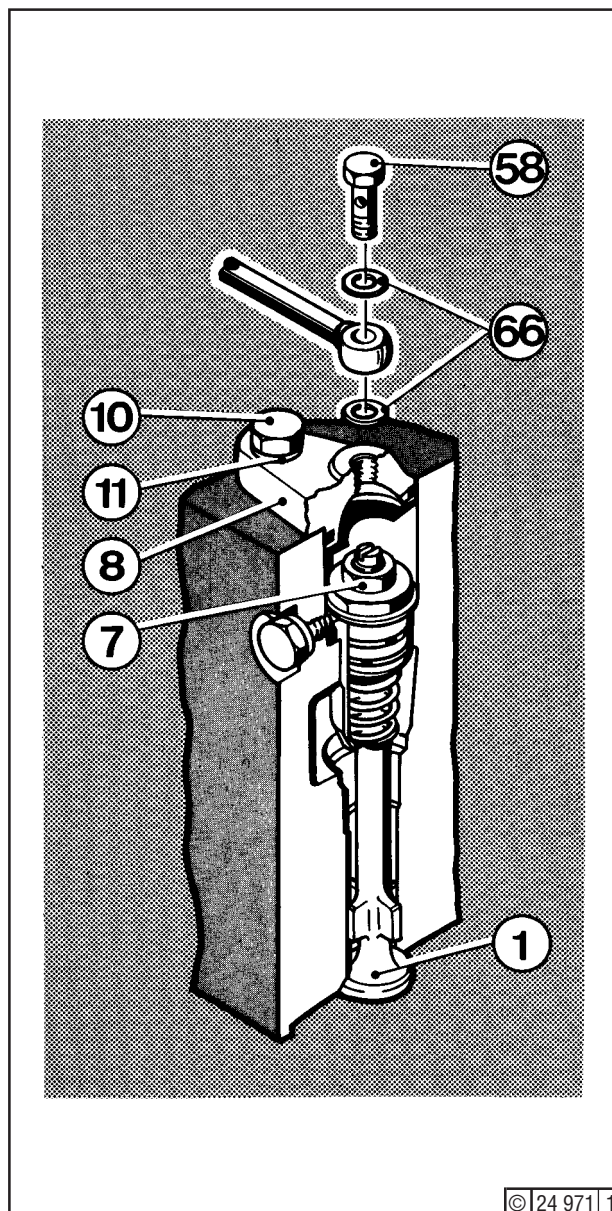
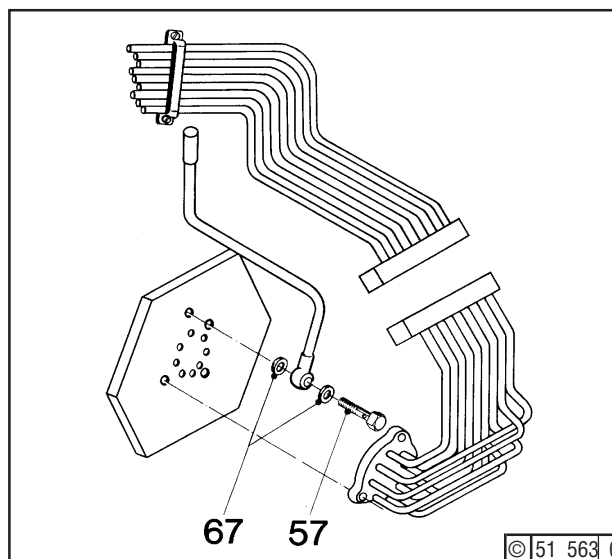

Fig. 1
Fig. 2
Unscrew banjo bolt (58) - Fig. 1 - and press down valve (1) with an arbor. If there is lack of free movement, remove valve and overhaul (Job Card 01.11.02).
Remove banjo bolt (57) at starting air distributor (Fig. 2) and, in its place, fit a hex. bolt, sealing washers (67) and a hex. nut to seal off the starting air line. Turn the engine so that the respective piston is a compression TDC (inlet and exhaust valves closed). Place engine control lever in "Start" position and slowly open shut-off valve on air receiver. If this causes air to come out through the indicator valve, this suggests that the starting valve is leaky. However, before removing valve, check whether carbon deposits or valve binding are the cause of the leak. To do this, unscrew banjo bolt (58) - Fig. 1 - at the air pipe, remove sealing washers (66) and, after unscrewing hex. bolt (10), take off lockwasher (11) and cover (8). Apply a socket wrench to locknut (7) and move valve to and fro to remove any carbon deposits. If this measure fails to eliminate the leak at the valve seat, remove valve (Job Card 01.11.02).